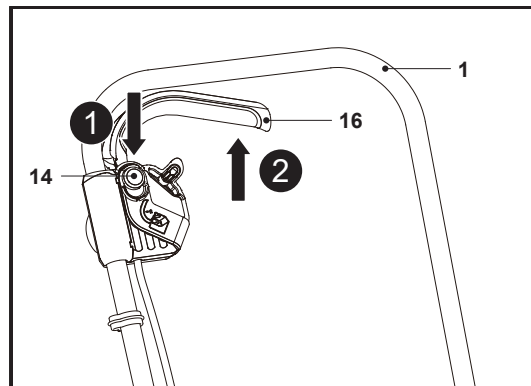

Fig. 11
1. Ensure the start lever (16) is released.
2. Press the lock-off button (14) and hold it in position (Fig. 11, step 1).
3. Squeeze the start lever (16) towards the handle (1) to switch the product on (Fig. 11, step 2). Hold the start lever (16) in position during operation.
4. Release the start lever (16) to switch the product off.